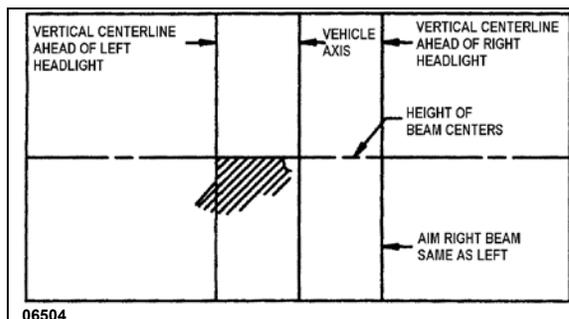

FIGURE 49: LOWER BEAM HIGH-INTENSITY ZONE PROPER LOCATION ON SCREEN 06504
- Low beam headlights are aimed so that the top edge (the cutoff) of the high-intensity zone is at the vertical location as per Table 1 and the left edge of the high-intensity zone is at the vertical centerline of the headlight (Figure 49).